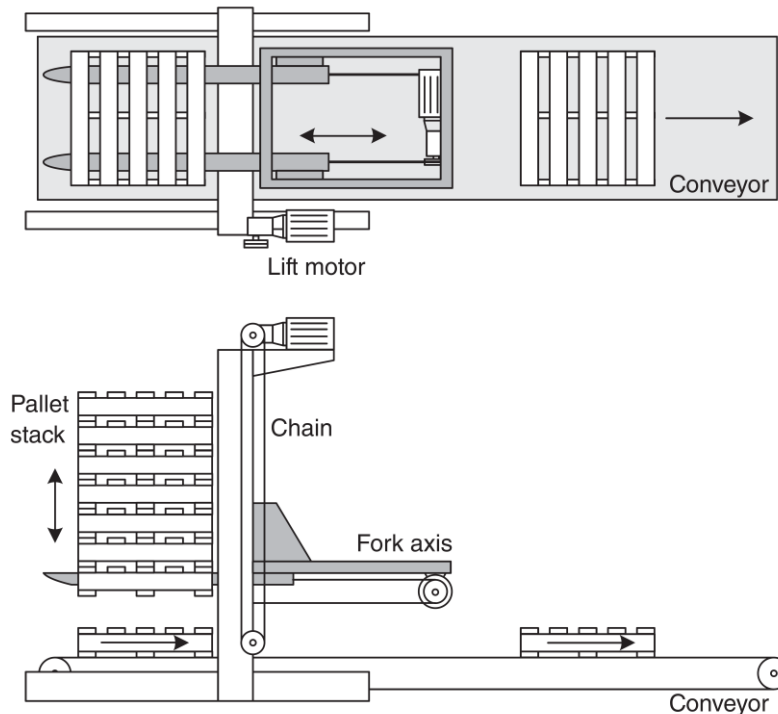

Figure 7: Pallet dispenser
- 10) A pallet dispenser shown in Figure 7 is used to dispense one pallet at a time to a conveyor from a stack of pallets. The machine has two axes, one for lifting the stack of pallets and the other for moving the forks in or out of the pallet stack. Initially, a stack of pallets is placed into the machine.